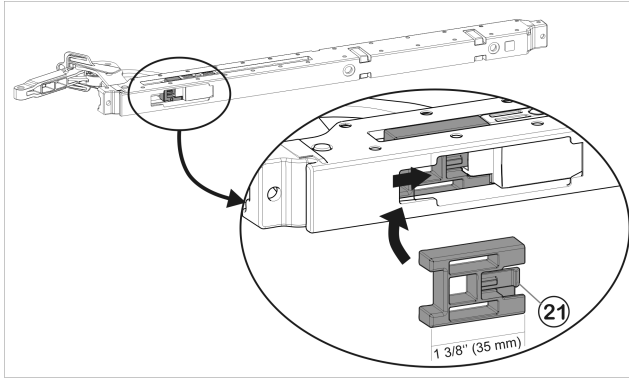

Fig. 57
- Fit opening limiter (90°) Fig. 57 (21) supplied: insert it into the soft stop mechanism from the side and push in until it audibly snaps into place.